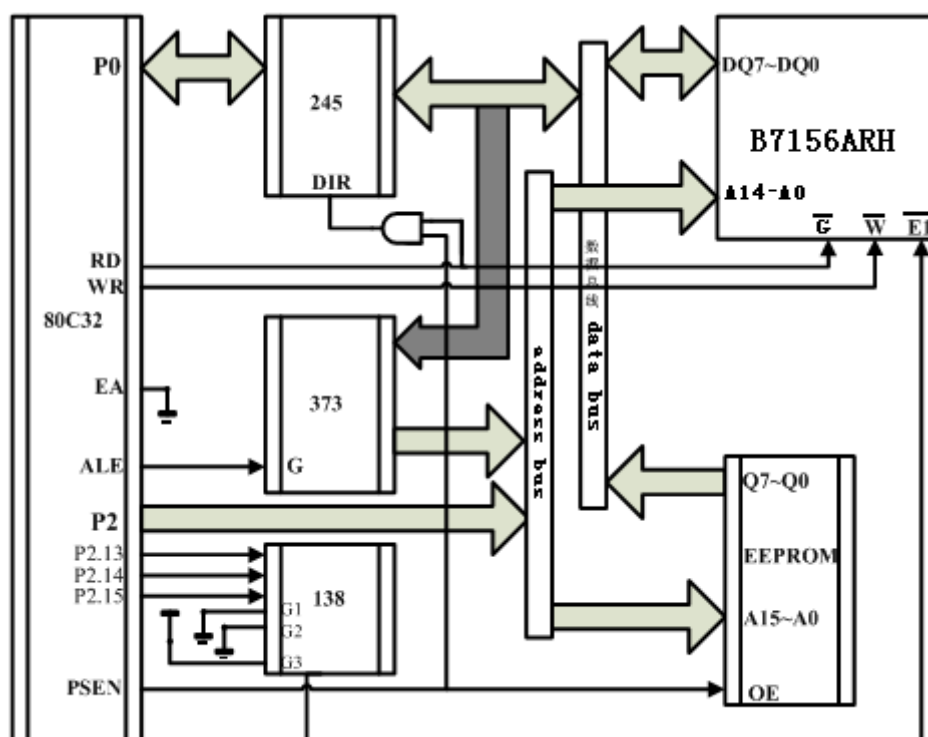

Figure 6. Typical Application
Figure 6 illustrates a typical application system, which consists of a CPU(80c32) and an SRAM (B7156ARH) chip. The B7156ARH serves as a parity check memory. The CPU is configured in standard mode for memory accessed. Besides address and data, the main signal include Chip Enable 、 Output Enable(RD) and Write Enable(WR).